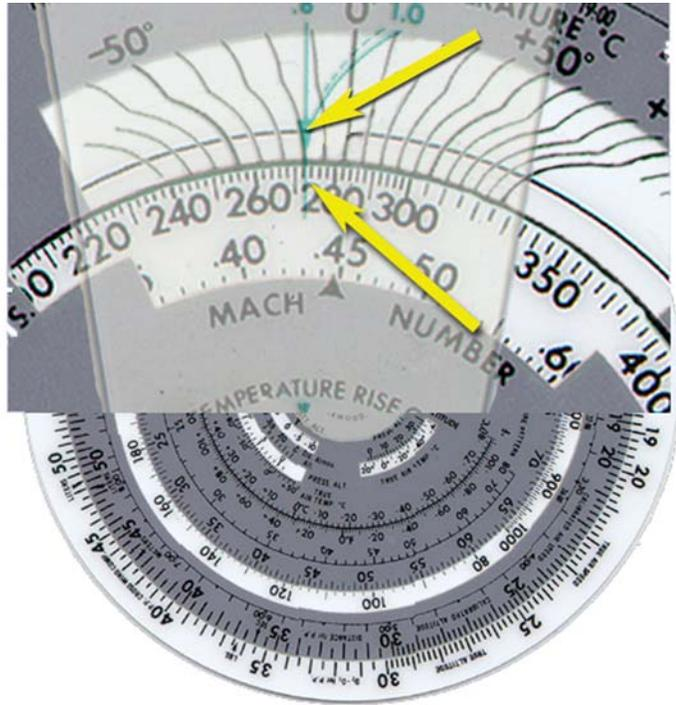

Figure 4.4-7 TAS 2 TEMP/TAS/MACH SPIRAL
2. Go to the large window at 12 o'clock to input the temperature. Be extra careful to set the green hairline at the intersection of the MACH spiral (black line running left to right) and the temperature wiggly (black line running top to bottom) representing -20° . Now follow the green line down to the TAS scale and read the value, in this case, 272 kts. (Figure 4.4-7)